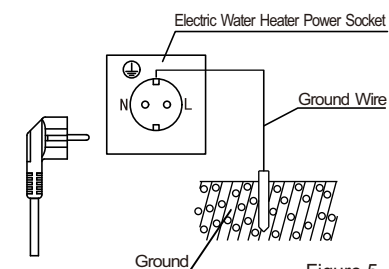

Figure 5
- (9) After confirming that the rated values of electricity meters, wires, switches, sockets and fuses in the power supply system meet the power consumption requirements of this product, connect a separate power socket at an appropriate position to supply power to the electric water heater (as shown in Figure 5). The installation height of power socket from the ground shall not be less than 1.8m.
- (10) After confirming that the rated values of electricity meters, wires, switches, sockets and fuses in the power supply system meet the power consumption requirements of this product, connect a separate power socket at an appropriate position to supply power to the electric water heater (as shown in Figure 5). The installation height of power socket from the ground shall not be less than 1.8m.